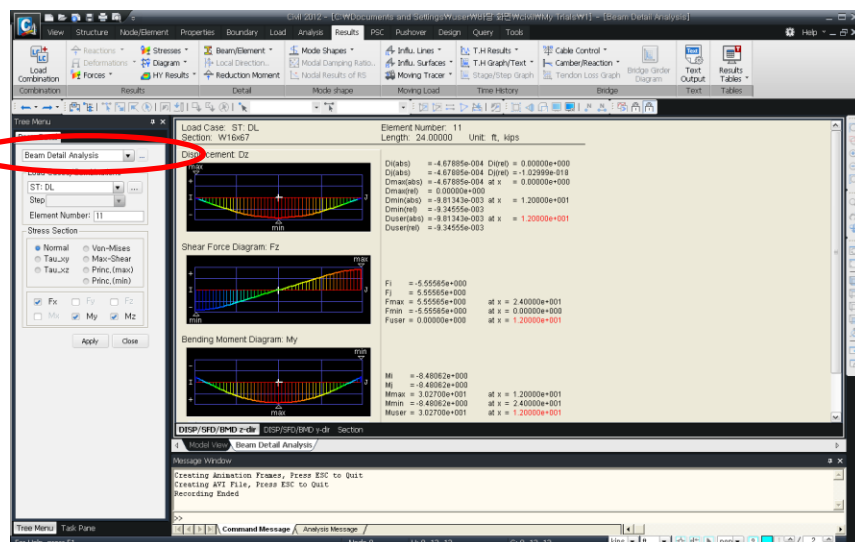

Figure 1.38 Beam Detail Analysis (DISP/SFD/BMD z-dir)
6. Verify the analysis results by selecting consecutively the **DISP/SFD** /**BMD z-dir**, **DISP/SFD/BMD y-dir** and **Section** tabs shown in Fig.1.38–❶.
❶ The windows currently opened in the Window of the Main Menu can be automatically assigned in diverse formats.
❶ The z-dir tab displays Dz, Fz and My.